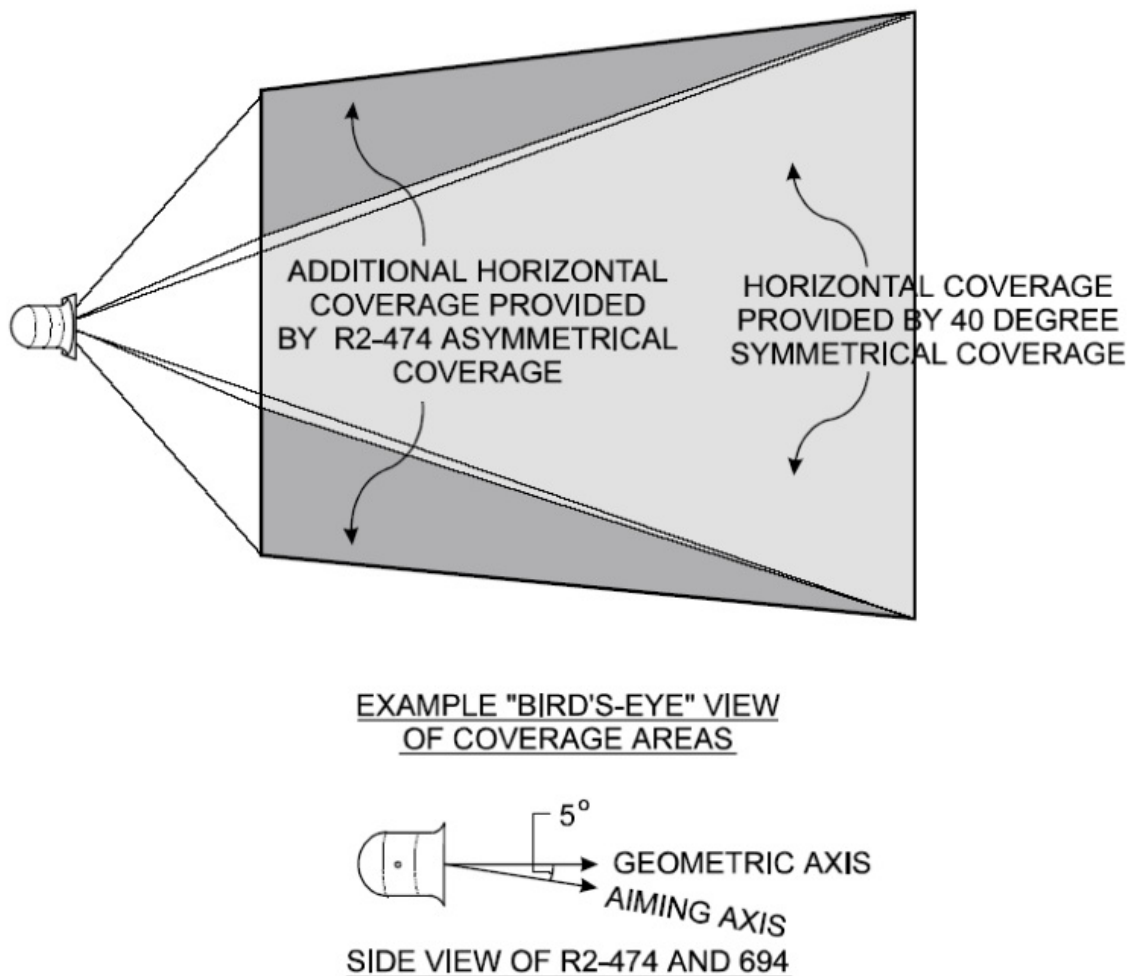

FIGURE 2: Asymmetrical coverage of the R2-474 and R2-694
2. Because of the geometry of these asymmetrical coverage patterns, the relative width of the coverage area stays more uniform from short to long distances. This is graphically illustrated in FIGURE 2.
The nominal vertical coverage patterns for the mid and high frequency section for the R2-474 and R2-694 are 15° above the geometric axis of the loudspeaker and 25° below it. As illustrated in the "Side View" in FIGURE 2, this means the acoustical axis of the mid and high frequencies is not the same as the geometric axis, which is perpendicular to the face of the loudspeaker. This acoustical axis is approximately 5° downward when the loudspeaker is physically aimed straight ahead. This acoustical axis is used to aim the loudspeaker.
An R2 has a definite top and bottom. Two R2 models have asymmetrical coverage patterns (See FIGURES 2 and 5).